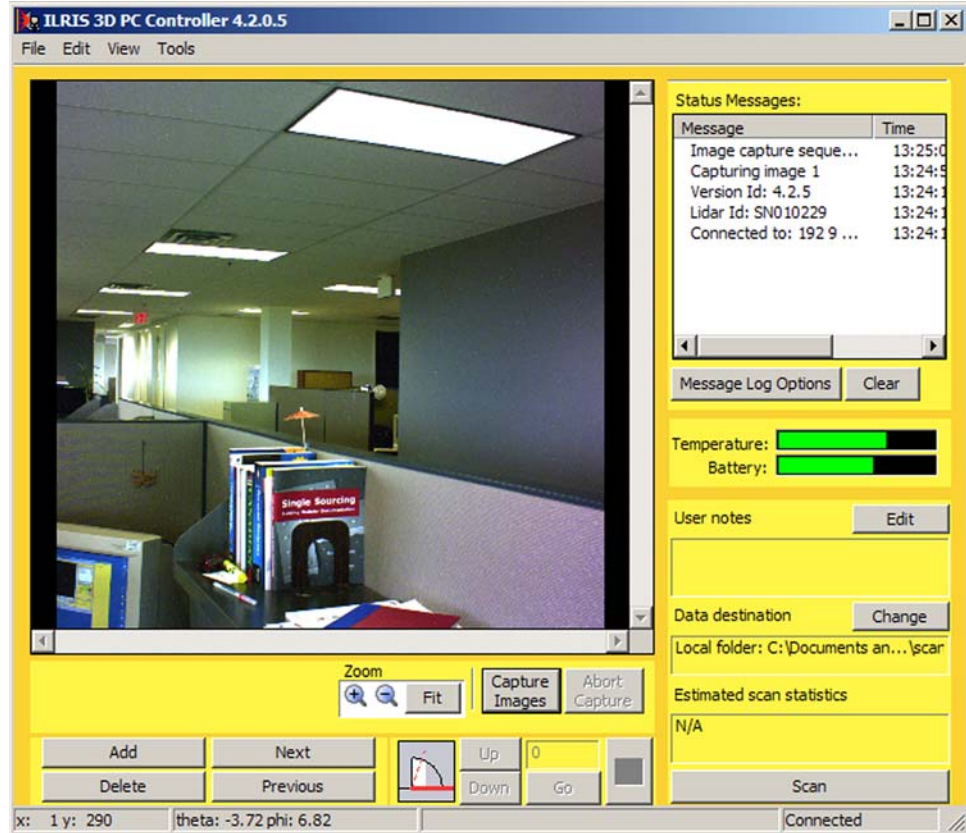

Figure 73: Target image
1. Click the **Capture Images** button. The target image appears in the Camera window (Figure 73).